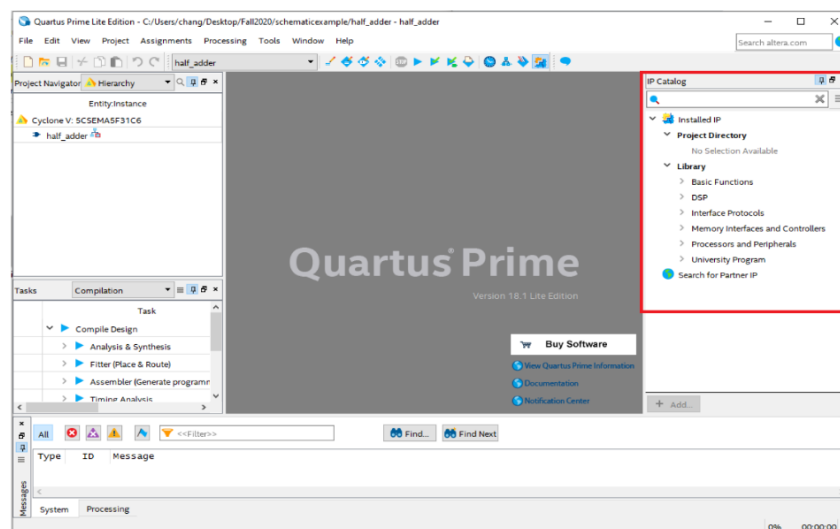

Figure 1: IP Catalog Library
- These components are available on the IP Catalog library located on right side of the Project page as shown on Figure 1; It can also be accessed from the “Tools Menu” if you can’t find it